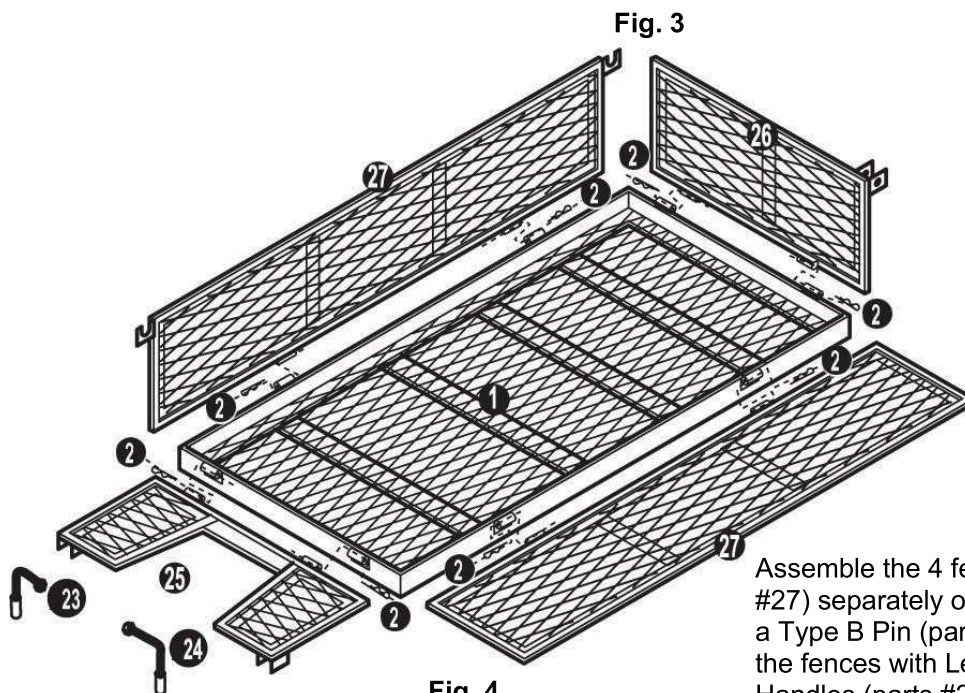

Fig. 3
STEP 2: Install Rear Axle Support and Rear Wheels. See Fig. 3.